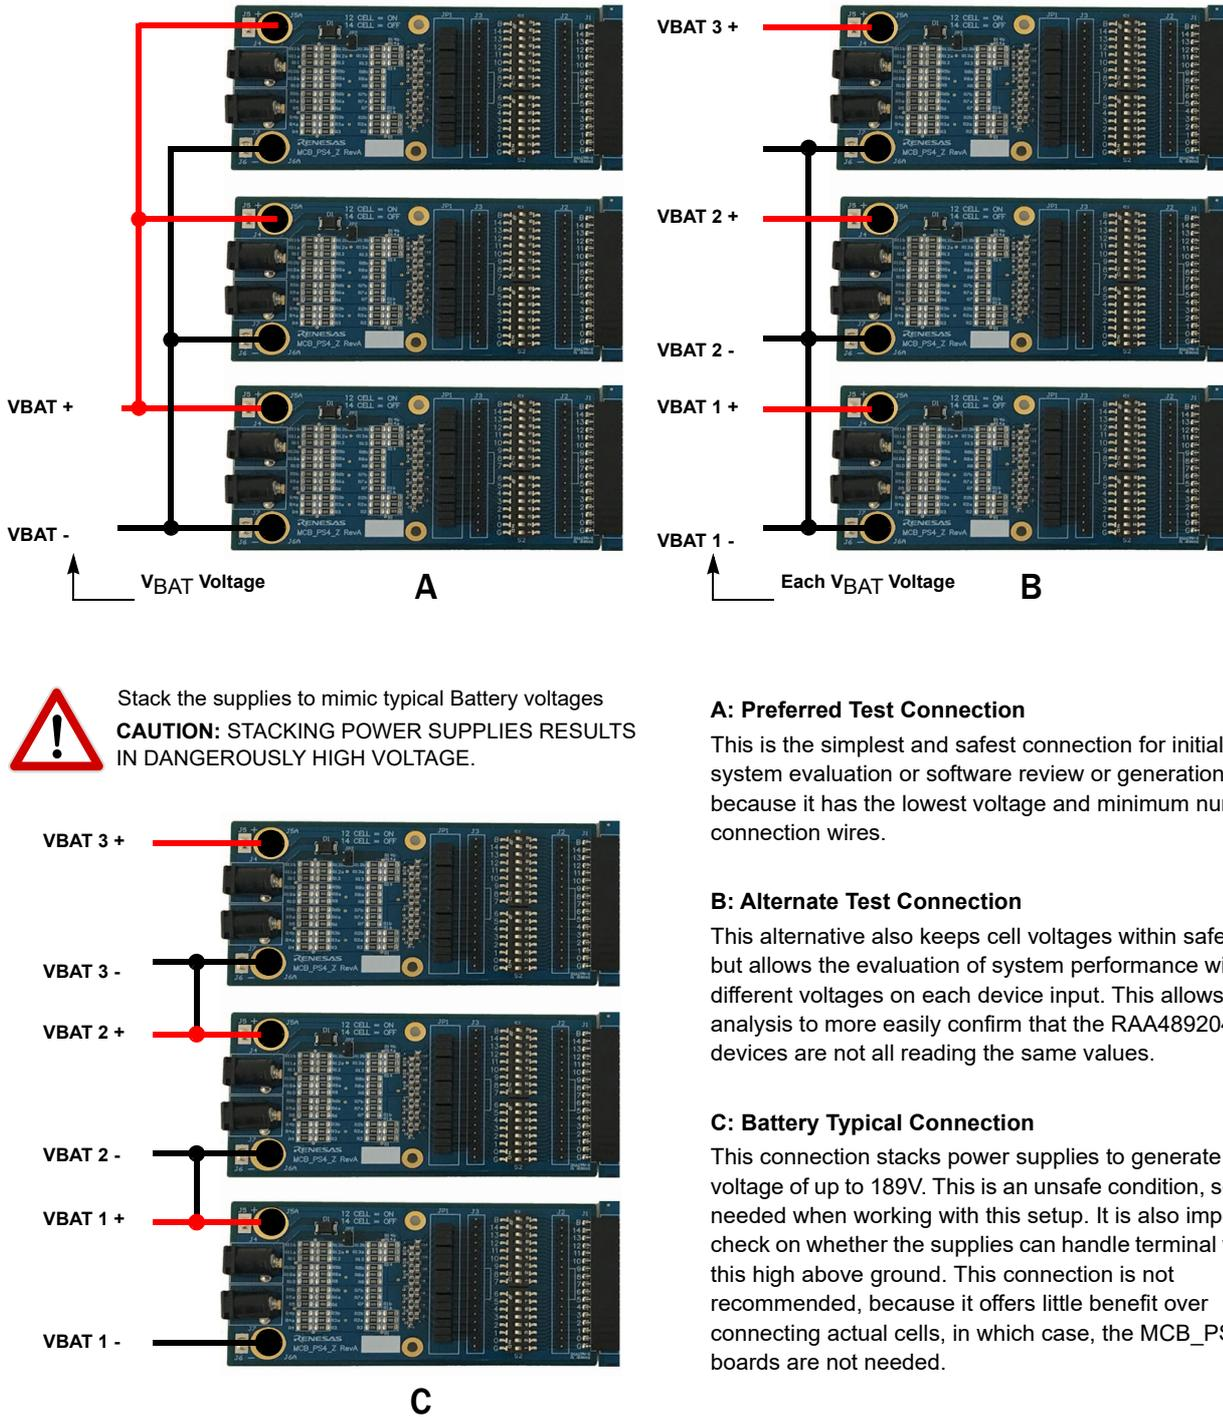

Figure 4. RTKA489204DK000BU Battery Cell Emulation MCB-PS4-Z Alternative Connections
2. Connect the power supply to all MCB\_PS4\_Z boards in parallel, that is, all ground pins are tied together and all VBAT pins are tied together. See Figure 4 \(Option A\). This is not typical of a battery installation, where the ground of one board is the  $V_{BAT}$  of another, but it easily facilitates testing of the communication and allows a safer environment for initial testing. Alternatively, power supplies can be stacked to better represent an actual implementation. See Figure 4 \(Option B or C\).